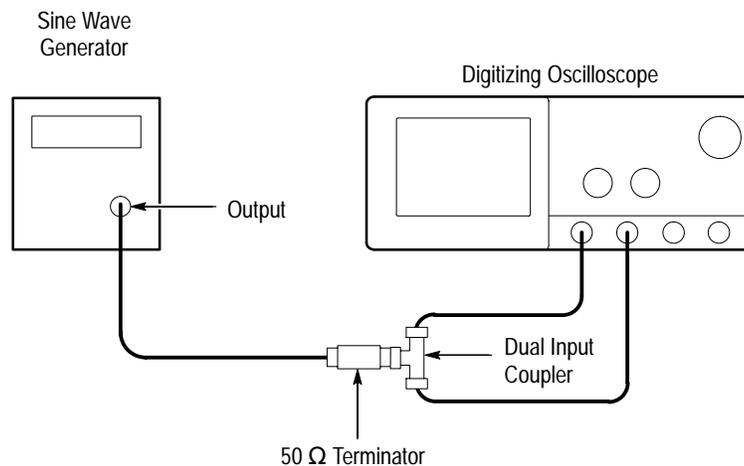

Figure 4–10: Initial Test Hookup
- Connect the sine wave output of a sine wave generator (item 19 or, optionally, 25) to a 50  $\Omega$  precision coaxial cable followed by a 50  $\Omega$  termination, and a dual-input coupler. See Figure 4–10.
- Connect the coupler to both **CH 1** and **CH 2**. See Figure 4–10.